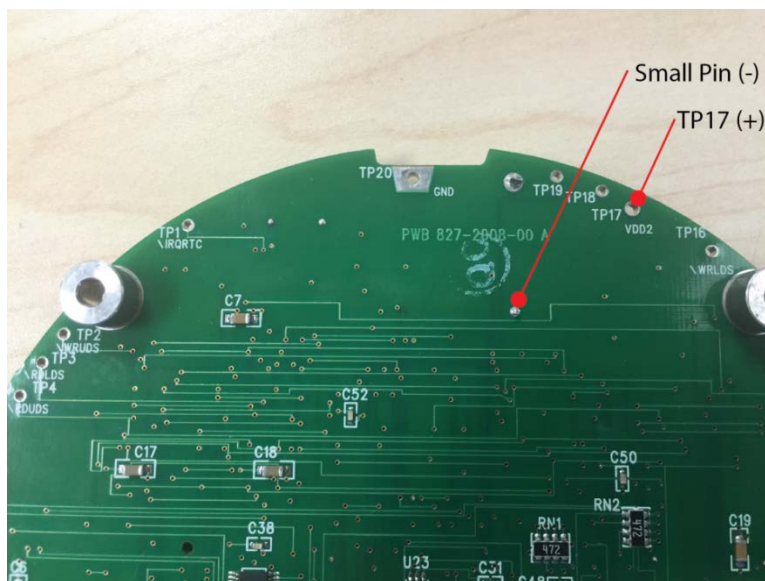

Figure 40. Lithium Battery Test Points on the CPU Board
5. Measure the voltage on the CPU board between TP17 (BAT+) and the small pin on the battery located on the back side of the CPU board (GND) (see Figure 40).